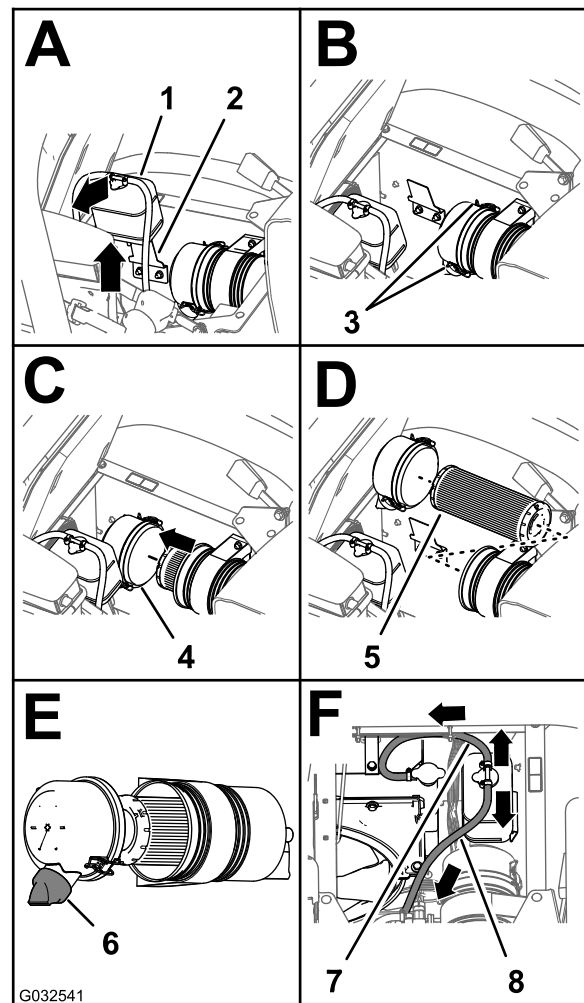

Figure 65
3. Lift the coolant-overflow tank up and off the tank-support bracket (Figure 65).
4. Loosen the 2 latches that secure the dust cap to the air-cleaner body (Figure 65).
6. Clean the inside of the dust cap, air-cleaner body, and dust valve with a damp rag (Figure 64 and Figure 65).
7. Insert the air-filter element into the air-cleaner body (Figure 65).
8. Install the cover onto the air-cleaner body and secure the cover with the 2 latches (Figure 65).
Note: Ensure that the dust valve is aligned between the 5 to 7 o'clock position when viewed from the end (Figure 65).
9. Align the coolant-overflow tank to the tank-support bracket and seat the tank firmly (Figure 65).
Important: Ensure that the pressure-relief hose is routed forward and down, and the tank-vent hose is routed rearward as shown in Figure 65.